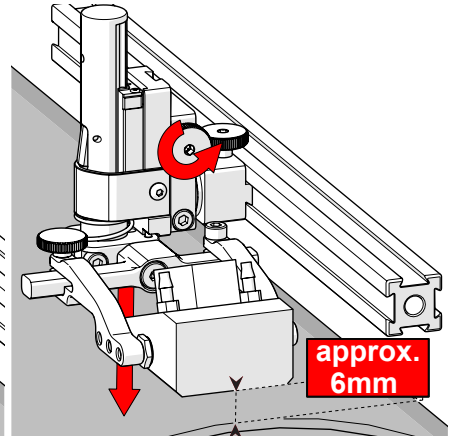

Fig. 178 - Lower toward scan surface
3. Tighten the vertical adjustment knob (Fig. 178).